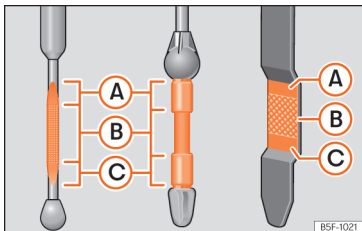

Fig. 186 Engine oil dipstick.
- Then pull it out once more and check the oil level »» **Fig. 186**. Top up with engine oil if necessary.
- When the oil level reaches at least zone »» **Fig. 186 B**, unscrew the engine oil filler cap carefully »» **ⓘ**.
If the oil level is above area »» Fig. 186 , do not start the engine. This could result in damage to the engine and catalytic converter. Contact a specialised workshop.
The oil level must never be above zone »» Fig. 186 . Otherwise oil can be drawn in through the crankcase breather and leak into the atmosphere via the exhaust system.